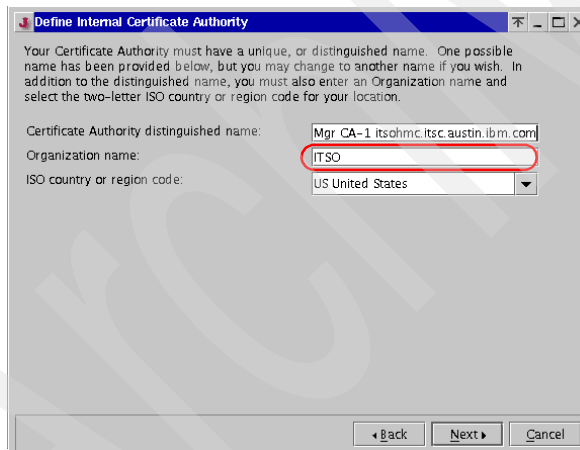

Figure 7-5 Organization name
4. The wizard prompts you to enter the organization name as highlighted in Figure 7-5. Type the appropriate organization name in the field and click **Next**.